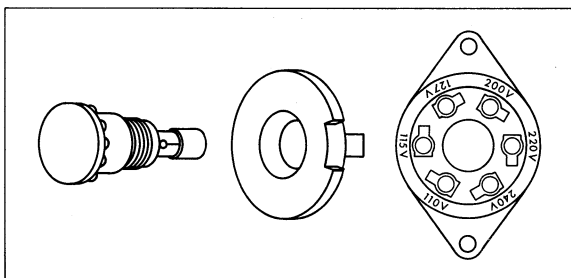

Fig.E1. View of the disassembled Fuse Holder and Voltage Selector.
1) Check that the VTVM is correctly switched to the line voltage to be used, as indicated by the line voltage selecting switch on the rear of the cabinet. Switching to another line voltage is accomplished by unscrewing the main fuse, taking off the contact ring, repositioning it according to the desired line voltage value, and screwing the fuse back in, as shown in Fig.E1.